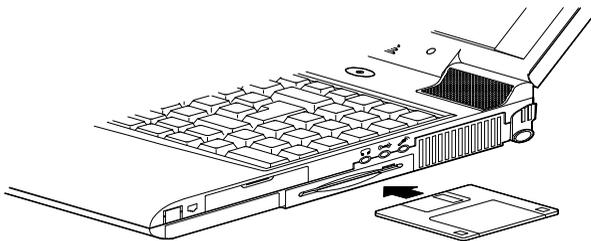

Figure 2-10
- To insert a diskette, insert it with the label-side facing up (Figure 2-10).